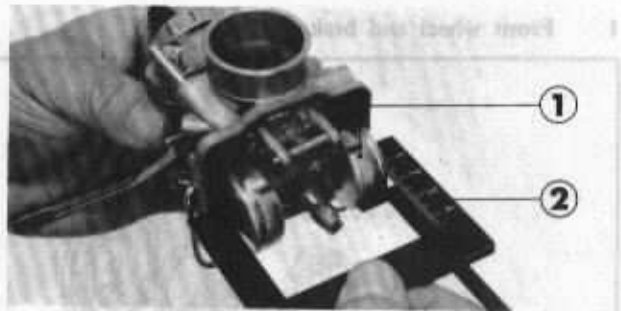

Fig. 3-61
2. Hold the carburetor with one hand and position it as shown in Fig. 3-61. Tilt the carburetor until the float arm touches the valve tip. In this position, measure the distance between the bottom of the groove on the mating surface of the carburetor body and the lowest point of the float, using a float level gauge. If the level is out of specification, adjust it by bending the float arm.